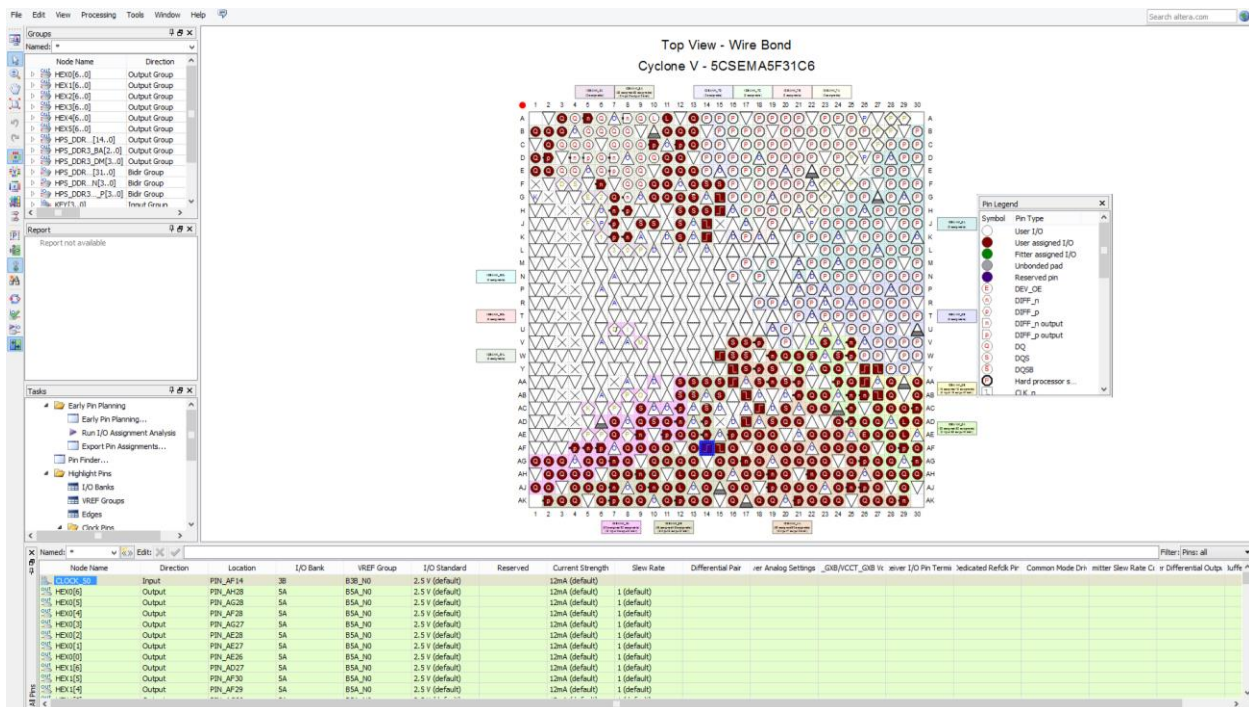

Figure 7. Entire design pin assignments for the DE1-SOC
36. Open Pin Planner again and this time you will see the pin assignments for each pin, Figure 7.